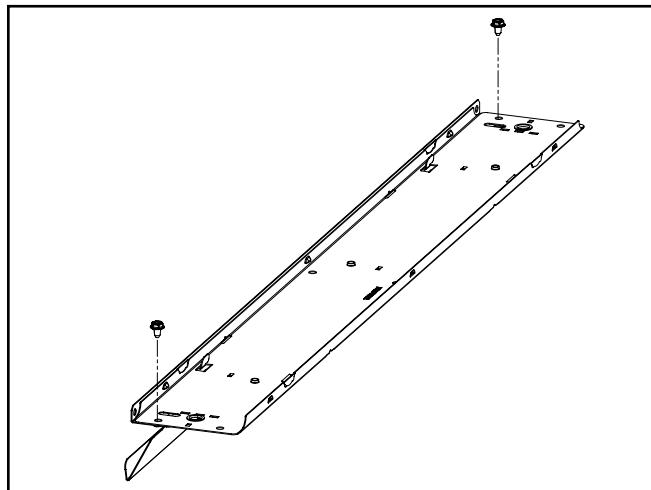

Figure 4.
3. Use the provided screws to fasten the sides of the reflector to the channel. (Figure 4).